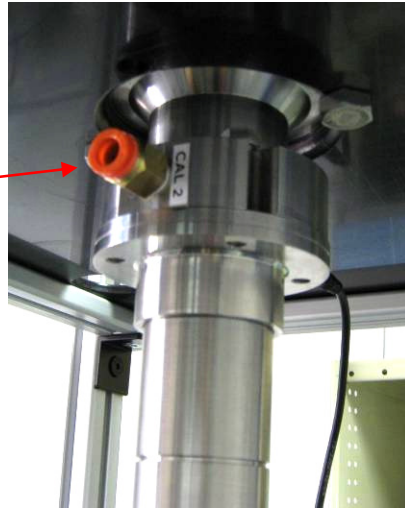

Figure 23 Calibration 2 connection
- **Calibration 2:** This tube runs from the port on the top flange (the port is located under the top shelf – see Figure 23). It too acts as a vent during calibration. (see Figure 20).